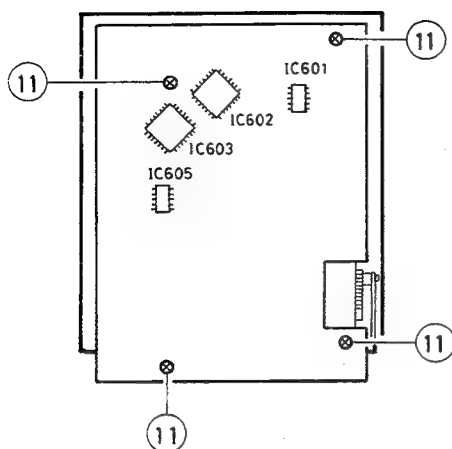
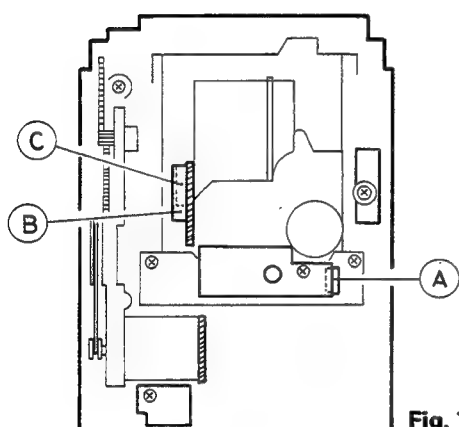

Fig. 7-13
Fig. 7-14
■ CD control board (VMW2307) (Fig. 7-13), (Fig. 7-14)
1. Remove four screws (11) retaining the CD control board (VMW2307).
2. Disconnect the 6-pin plug of the connector CN502 of the CD control board (VMW2307) from the connector (A) of the spindle motor board.
3. Disconnect the 10-pin plug and 4-pin plug of the connectors CN501 and CN503 of the CD control board (VMW2307) from the connectors (B), (C) of the CD pickup board.